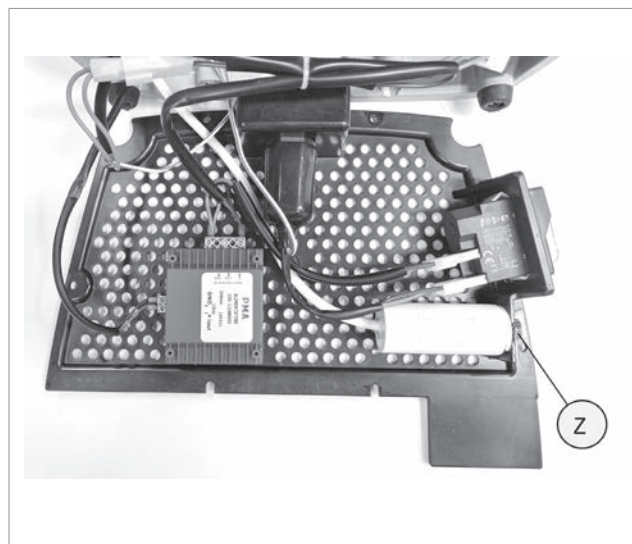

Fig. 60
- Loosen the nut (Z) (Fig. 60) and remove together with the washer.